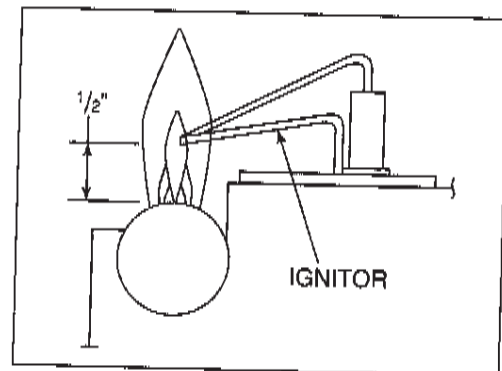

Figure 12A
- B. Visually check the flame of the burner periodically, making sure the flames are steady; not lifting or floating. The flame color should be blue with yellow tips. The ignitor (electronic) or thermopile (standing pilot) tips should be covered with flame. See Figures 12A or B and 13.